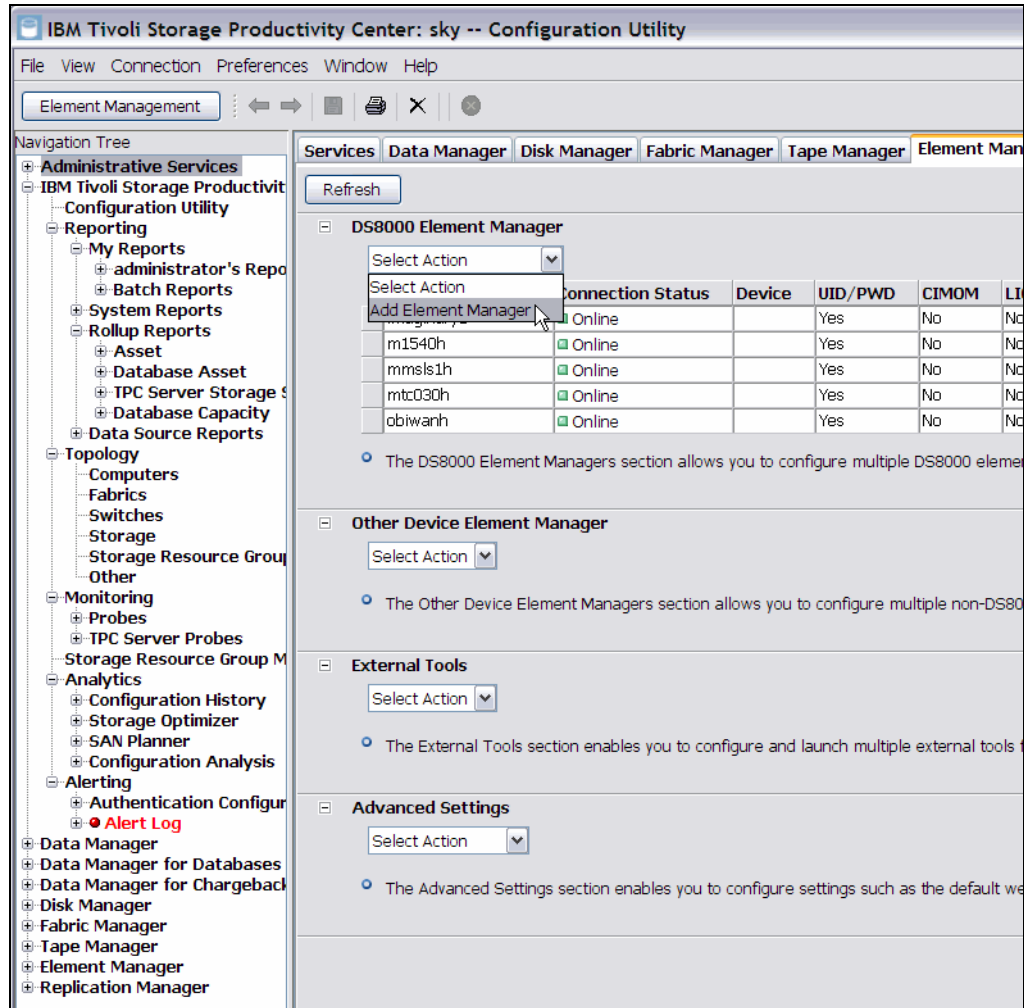

Figure 12-4 TPC Element Manager view: Options to add and launch Elements
12. Click the **Element Management** button in the Welcome window. If this is not the first login to the TPC and you removed the Welcome window, then click the **Element Management** button above the Navigation Tree section. The new window displays all storage systems (Element Managers) already defined to TPC. From the Select action drop-down menu, select **Add Element Manager**, as shown in Figure 12-4.